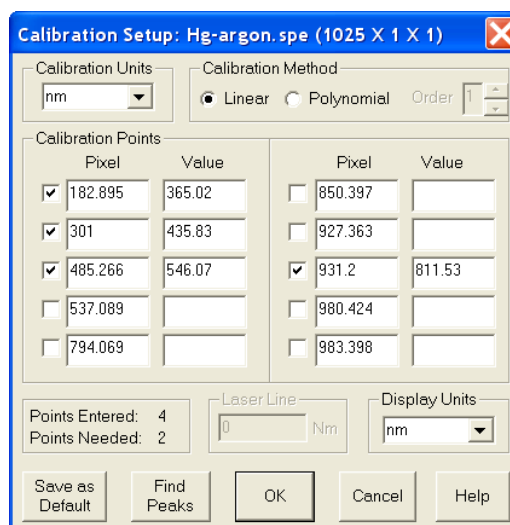

Figure 60. Setup Calibration screen after selecting peaks and entering calibration wavelengths
6. Once the wavelengths have been entered for the selected peaks, check the selection box to the left of the **Pixel** box for each peak selected. (Figure 60). A checkmark in the box indicates that the peak is selected. *Note that wavelength values must be entered for these peaks before the selection box can be checked.*